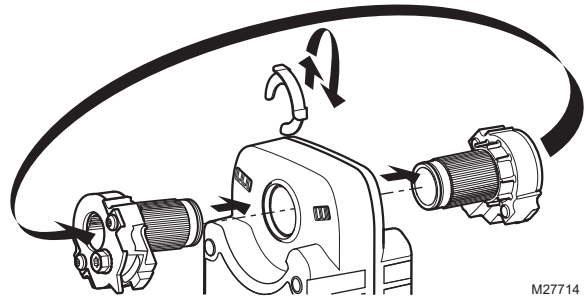

Fig. 28. Change actuator to normally open.
- d. Move the Self-Centering Shaft Adaptor to the opposite side of the actuator, as displayed in Fig. 28.